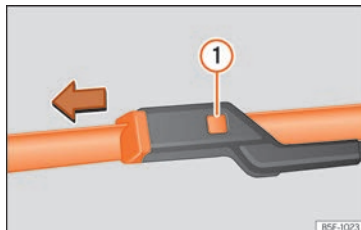

Fig. 43 Changing the windscreen wiper blades
- Press and hold release button »» Fig. 43 ① and pull gently on the wiper blade in the direction of the arrow.